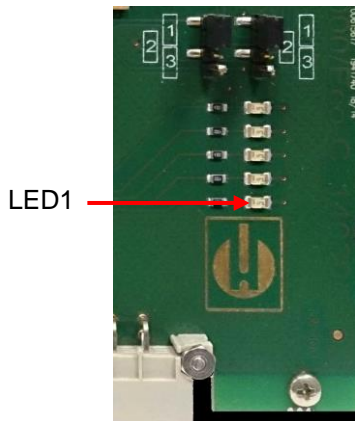

Figure 30
* For position of the LEDs, see figure 30 of control circuit board.